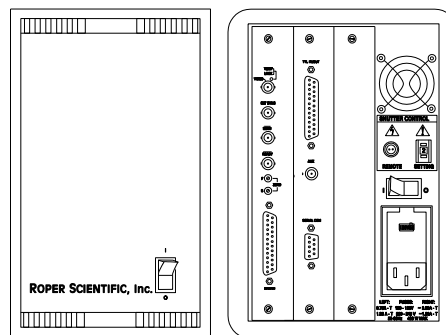

Figure 2. Power Switch Location
**POWER Switch and Indicator:** The power switch location and characteristics depend on the version of ST-133 Controller that was shipped with your system. In some versions, the power switch is located on the front panel and has an integral indicator LED that lights whenever the ST-133 is powered. In other versions, the power switch is located on the back of the ST-133 and does not include an indicator LED. Figure 2 shows the two locations.